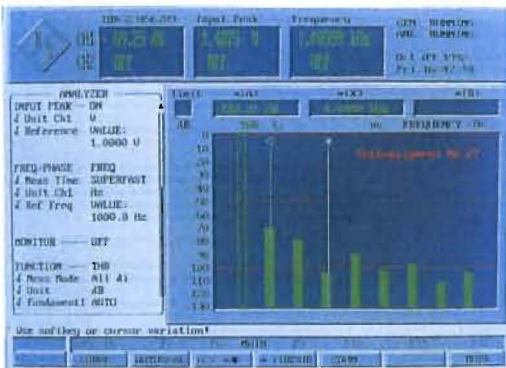

Fig. 1: Values obtained from harmonic distortion and intermodulation measurements can also be displayed as a histogram diagram
- Harmonic distortion measurements. All the harmonics, single harmonics or any combination of harmonics can be measured (Fig. 1).